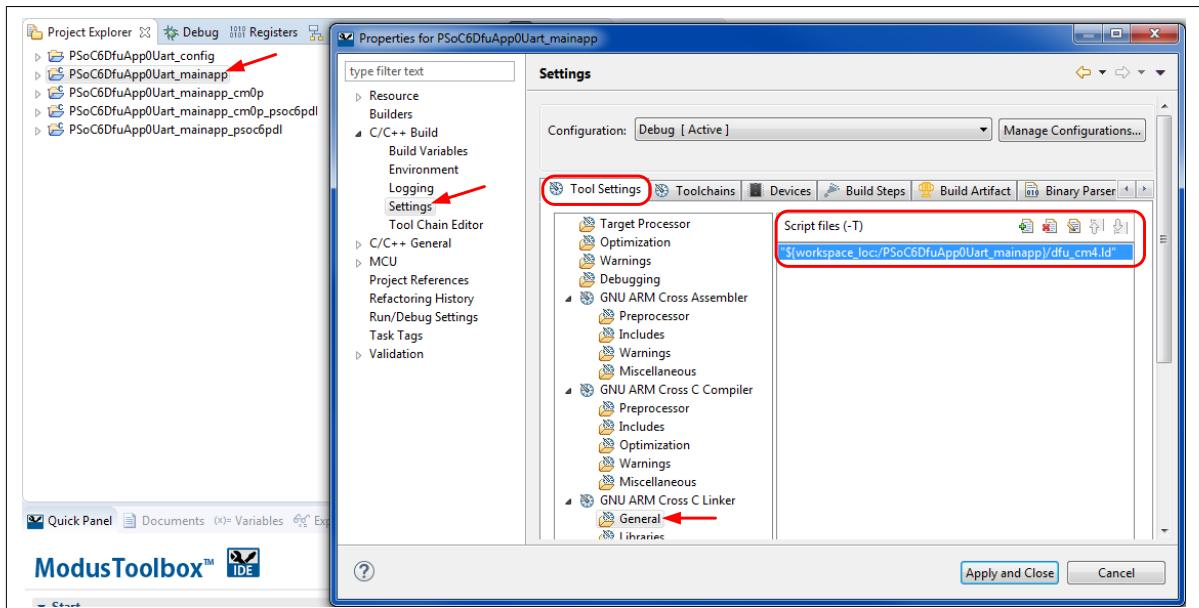

Figure 571 ModusToolbox™ project properties setting for custom linker script
4. Change the project properties to use the DFU linker script files instead of the default linker script files. Select the dfu_cm4.ld file for _mainapp, as Figure 571 shows. Include the relative path to the file. Select the dfu_cm0p.ld file for _mainapp_cm0p (not shown in the figure)